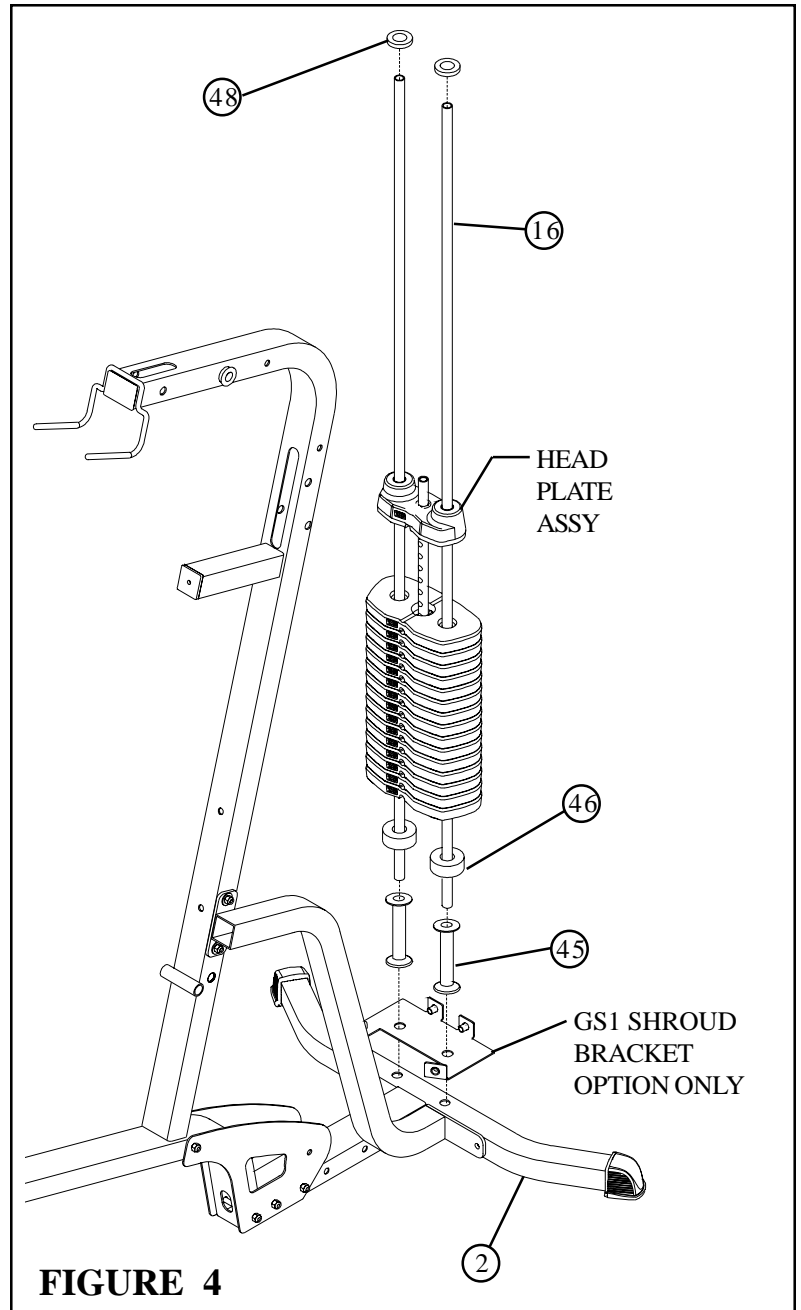

FIGURE 4
- Insert two GUIDE RODS (16) into the BASE (2) as shown on FIGURE 4. (NOTE: If the GS1 SHROUD OPTION was purchased, place the GUIDE RODS (16) through the BOTTOM SHROUD BRACKET (FOUND IN THE SHROUD KIT BOX) into the BASE (2), as shown in FIGURE 4.
- (NOTE: Lubricate GUIDE RODS (16) with silicon or teflon spray available at most hardware stores.)
- Slide the following items in order down each GUIDE ROD (16), one WEIGHT STACK SPACER (45), and one WEIGHT STACK CUSHION (46)
- Using **EXTREME CARE** slide all fifteen WEIGHT PLATES (22) down the GUIDE RODS (16) onto the WEIGHT STACK CUSHIONS (46). Make sure that the keyholes of the WEIGHT PLATES (22) are all facing the right way.
- Slide the head plate assembly down GUIDE RODS (16) onto the weight stack.
- Slide one SHAFT COLLAR (48) down each GUIDE ROD (16).